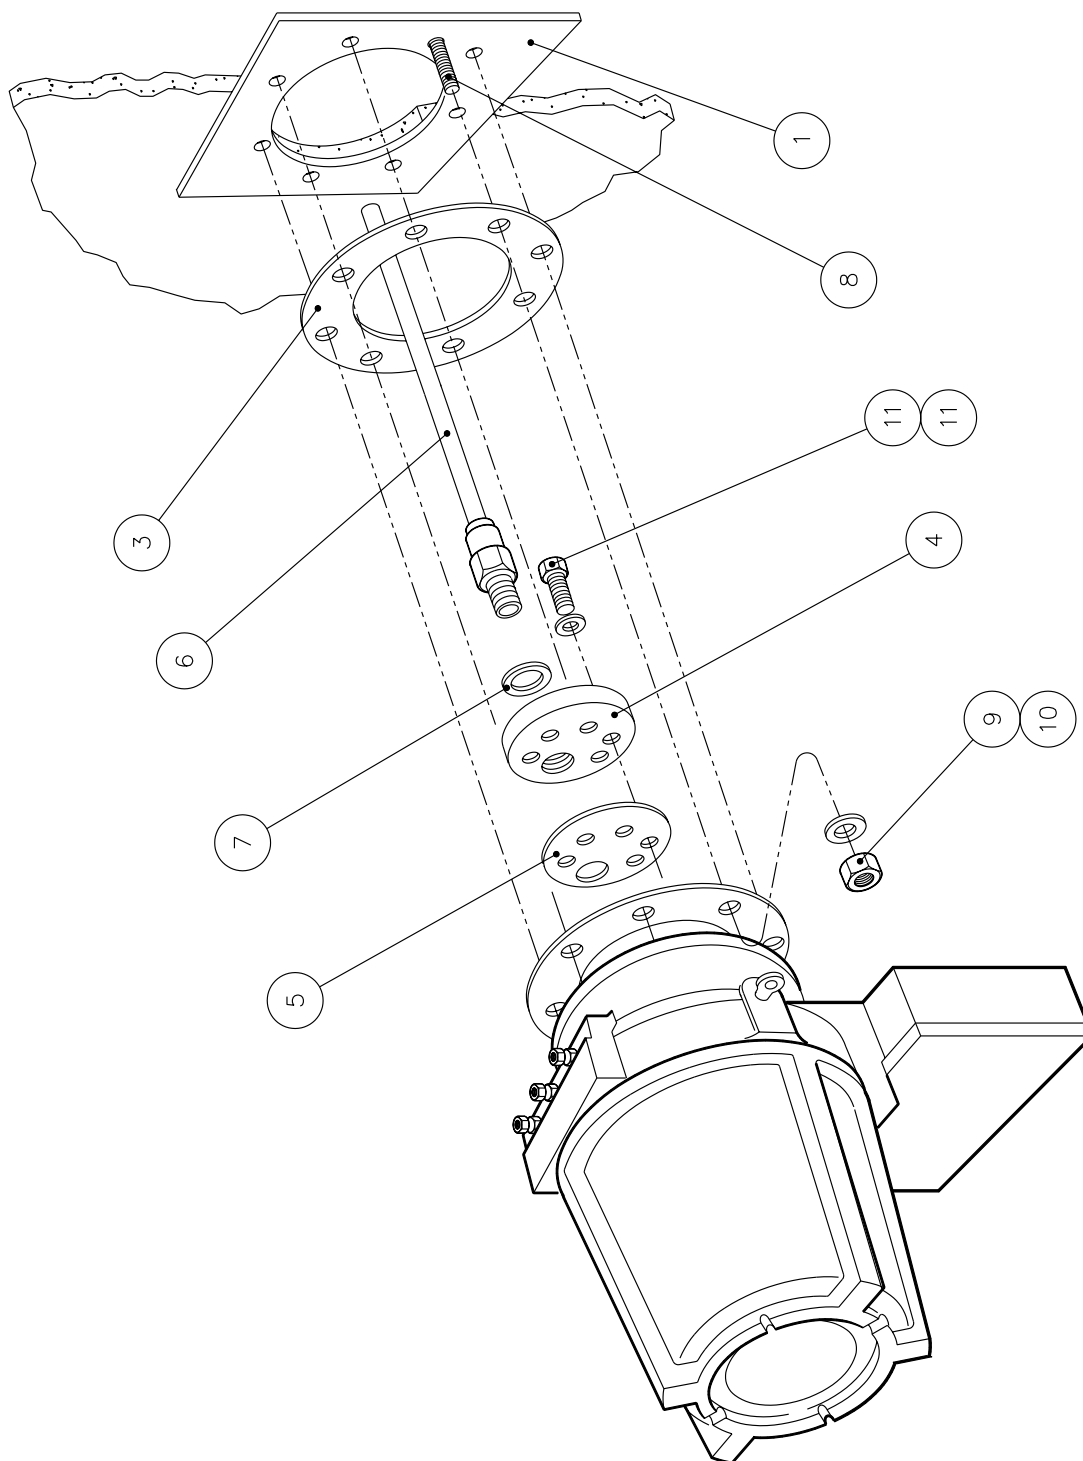

Figure 3.24 Installation of High Temperature Probe
3.9.4 High Temperature Probe See Figure 3.24.